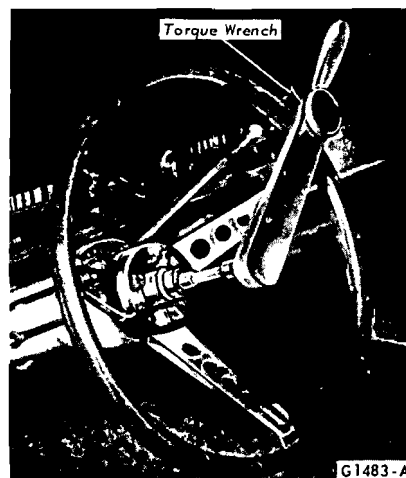

FIG. 5—Checking Pre-Load—Typical
11. Turn the sector adjusting screw clockwise until the specified pull (Part 3-6) is necessary to rotate the worm past its center high spot (Fig. 5). **No perceptible backlash is permissible at 30° on either side of center.**